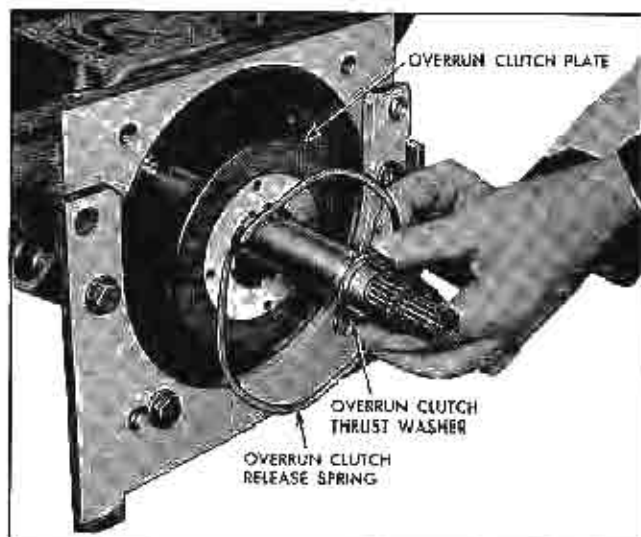

Fig. 56 Overrun Clutch Plate and Release Spring
6. Remove overrun clutch release spring (Fig. 56).
8. Remove overrun clutch plate and bronze thrust washer (Fig. 56).